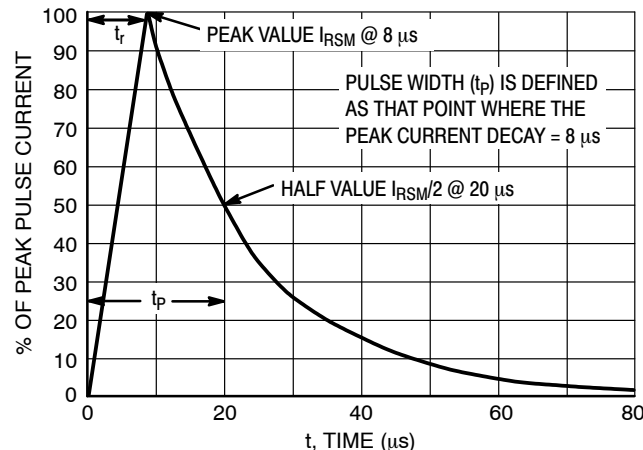

Figure 7. 8 x 20  $\mu$ s Pulse Waveform
1. Surge current waveform per Figure 7.